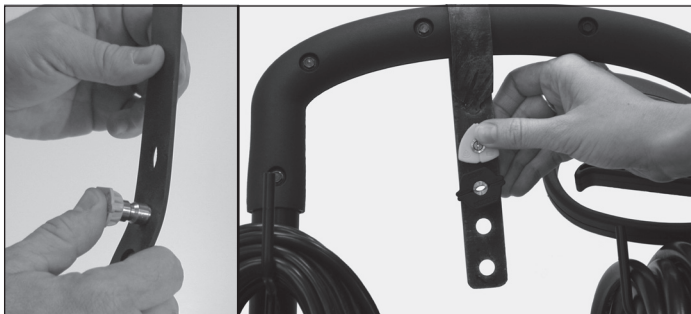

Figure 5 - Insert spray nozzles into the holder
2. Insert spray nozzles into rubber nozzle holder (See Figure 5).